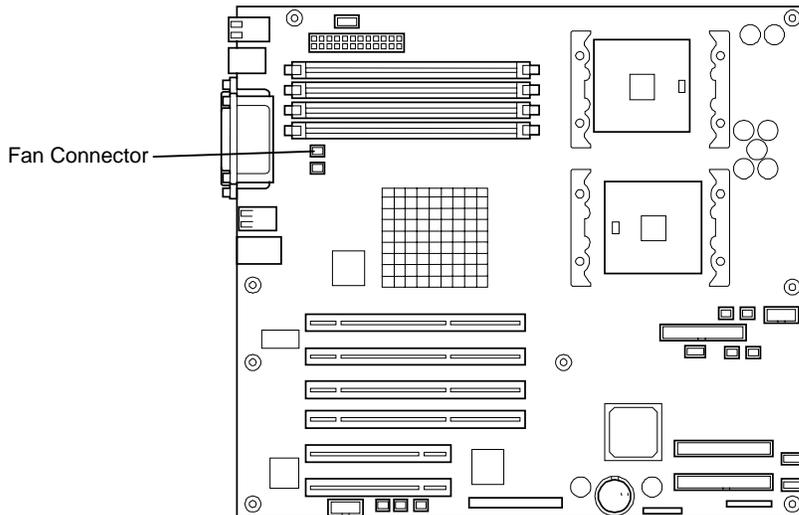

Figure 4-53. Rear Cooling Fan System Board Connector
9. Disconnect the rear cooling fan cable to the system board. See Figure 4-53.
See Figure 4-53.